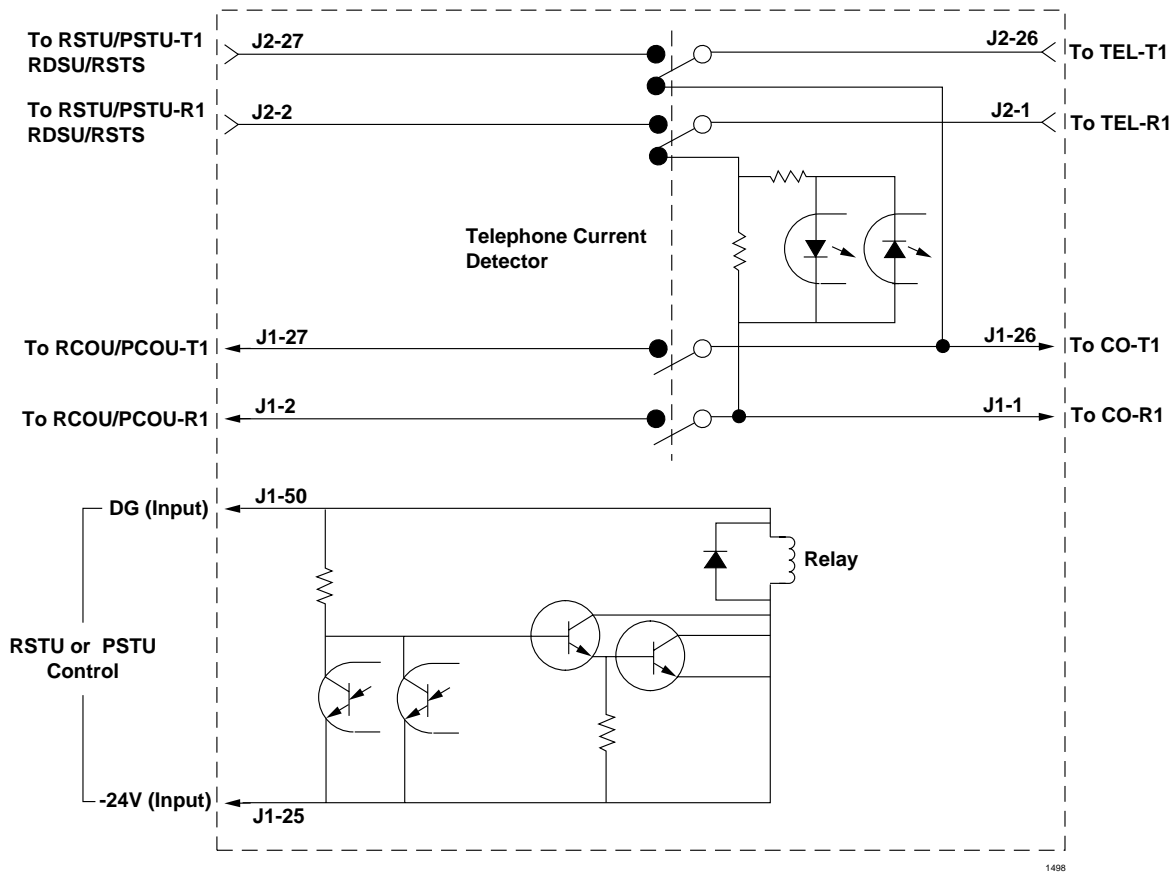

Figure 10-1 DPFT Circuit Diagram
Figure 10-1 provides a circuit diagram of the DPFT.
1. Connect the external music source to the DK14 or DK40i KSU, or DK424 RCTU, RCA jack (see Figure 10-1).
- ♦ MAKE (M) – Shorts the normally open contacts (pins 9 and 34) when MOH is activated.
- ♦ BREAK (B) – Opens the normally closed contacts (pins 9 and 34) when MOH is activated.
- ♦ MAKE (M) – Shorts the normally open contacts (NHT and NHR) when any CO line is in the hold condition.
- ♦ BREAK (B) – Opens the normally closed contacts (NHT and NHR) when any CO line is in the hold condition.